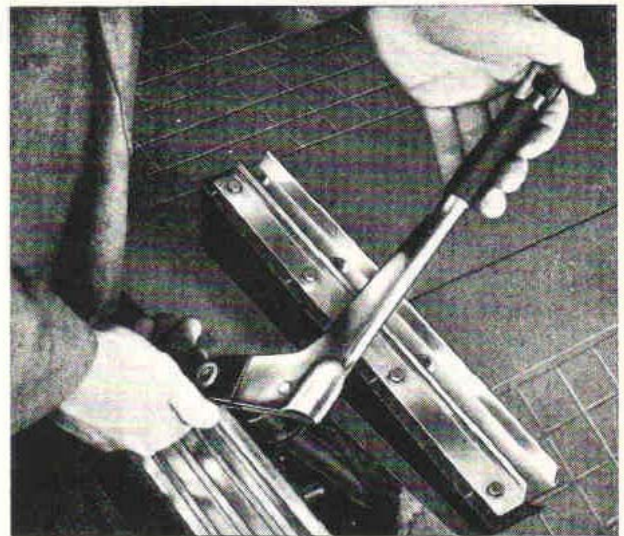

Fig. 50. Removing the handbrake lever.
4. Move the handbrake lever towards the centre of the vehicle until it releases at the outer support. Remove the rubber seal and take out the lever complete with shaft, see Fig. 50.